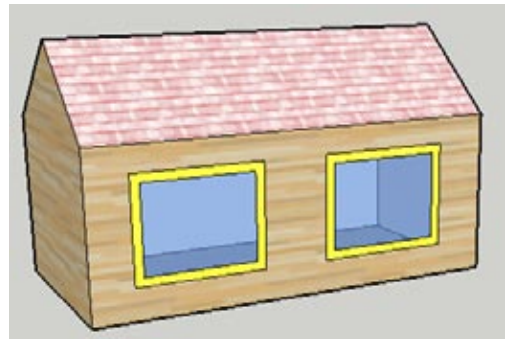

Figure 5-14
1. Start with a model like the one in Figure 5-14. You can create your model from scratch, or download my Simple Dormer model from the 3D Warehouse.